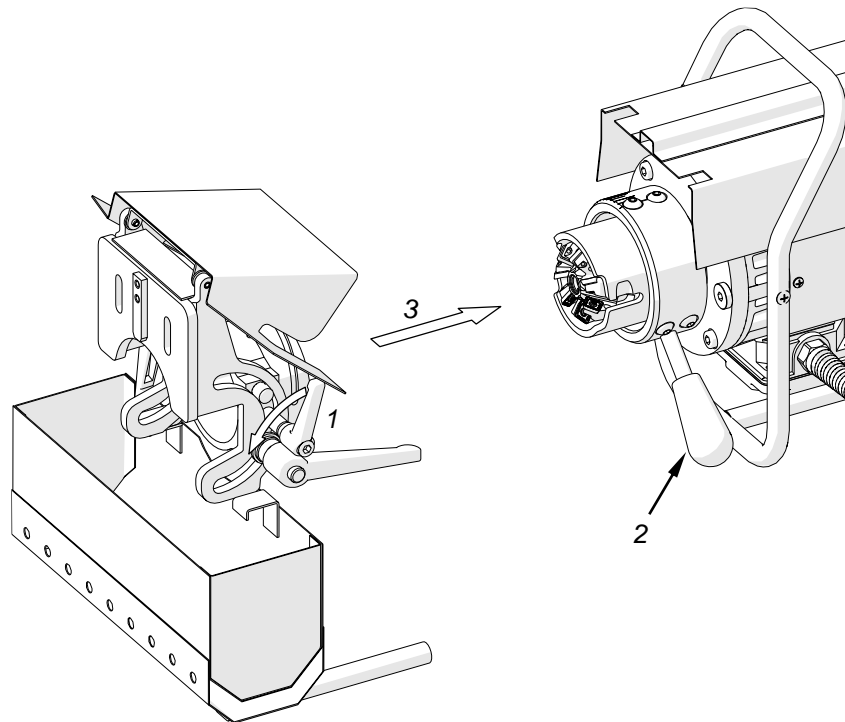
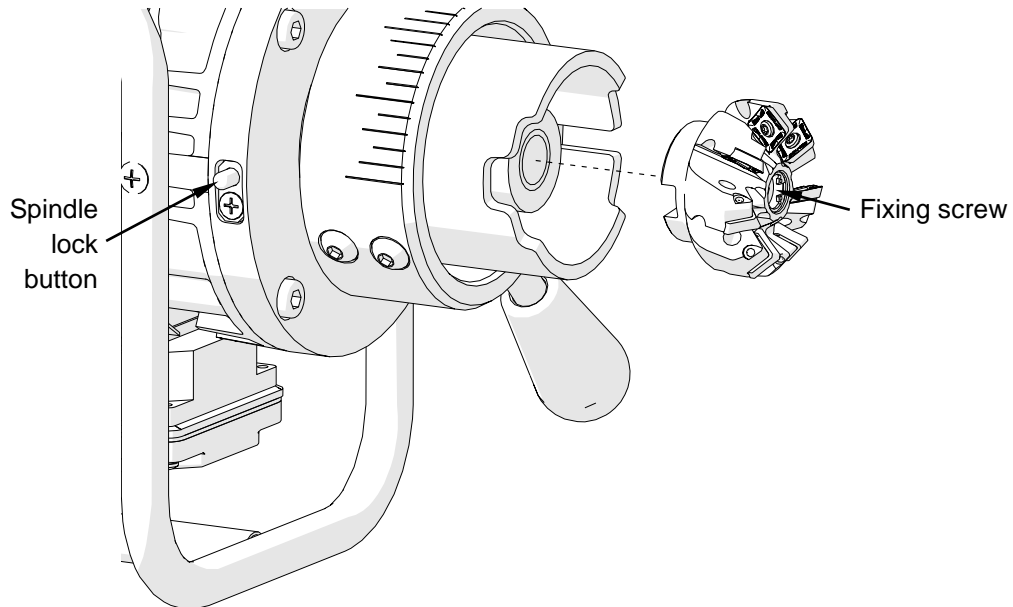

Fig. 7. Removing the milling unit
Fig. 9. Replacing the milling head
The inserts may be replaced or rotated. To do this, unplug the power cord from the power source and unplug the cable connecting the milling unit to the carriage. Next, loosen the bevel depth lock lever (1, Fig. 7), set the lever 2 in the position shown in the figure, and then remove the milling unit (3).
Unplug the power cord from the power source, and unplug the cable connecting the milling unit to the carriage. Remove the milling unit in the manner shown in Fig. 7, hold the spindle lock button, and use 5 mm hex wrench to loosen the screw (Fig. 9). Then, release the lock button and remove the head. Install in reverse order.
To install a milling unit support, unplug the power cord, unplug the cable connecting the milling unit to the carriage, and remove the milling unit as shown in Fig. 7.
To install the support for J-beveling, loosen the screw 5 using the 8 mm hex wrench and loosen two lock levers 6, set the body to a proper height indicated by the scale 7, and tighten the screw and levers. Then, install the milling head for J-beveling in the manner shown in Fig. 9.